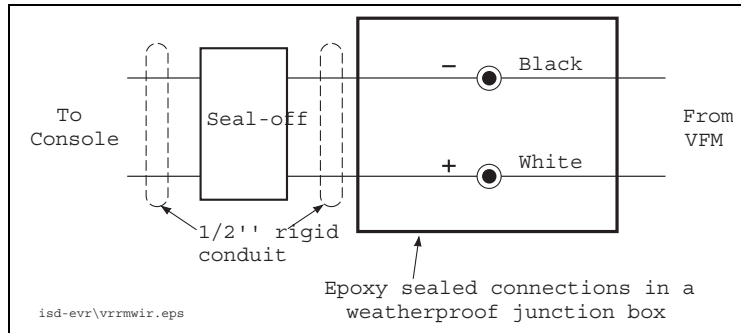

Figure 4. Field wiring Connections for Direct-Wired VFM Only - Observe Polarity
11. Install a cord grip from the kit into the I.S. junction box. Route the VFM cable into the I.S. junction box and tighten the cord grip. Observing polarity, connect the VFM wiring to the field wiring from the TLS console with wire nuts (see Figure 4). Seal wire nuts in epoxy sealant following the instructions in Figure 5.
7. Install a cord grip from the kit into the I.S. junction box. Route the VFM cable into the I.S. junction box and tighten the cord grip. Observing polarity, connect the VFM wiring to the field wiring from the TLS console with wire nuts (see Figure 4). Seal wire nuts in epoxy sealant following the instructions in Figure 5.